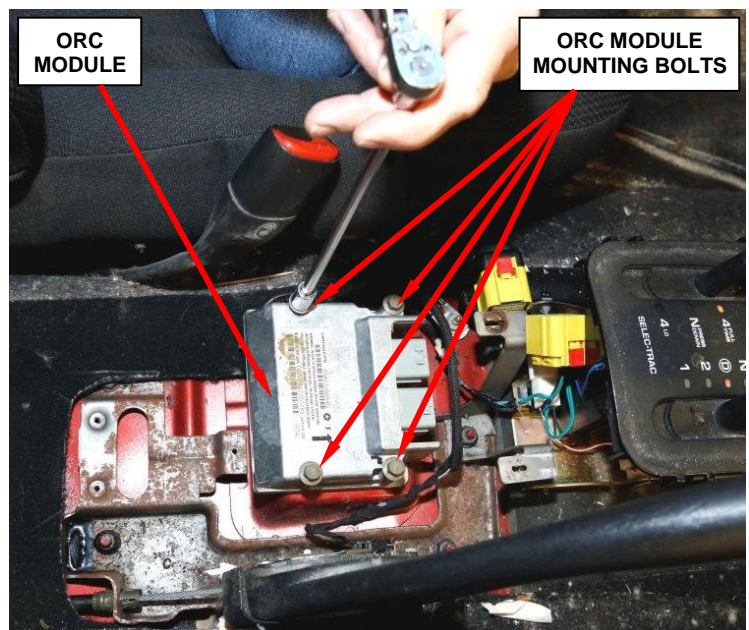

Figure 16 – Remove and Discard Original ORC Module
4. Remove, destroy, and discard the original ORC module (Figure 16).